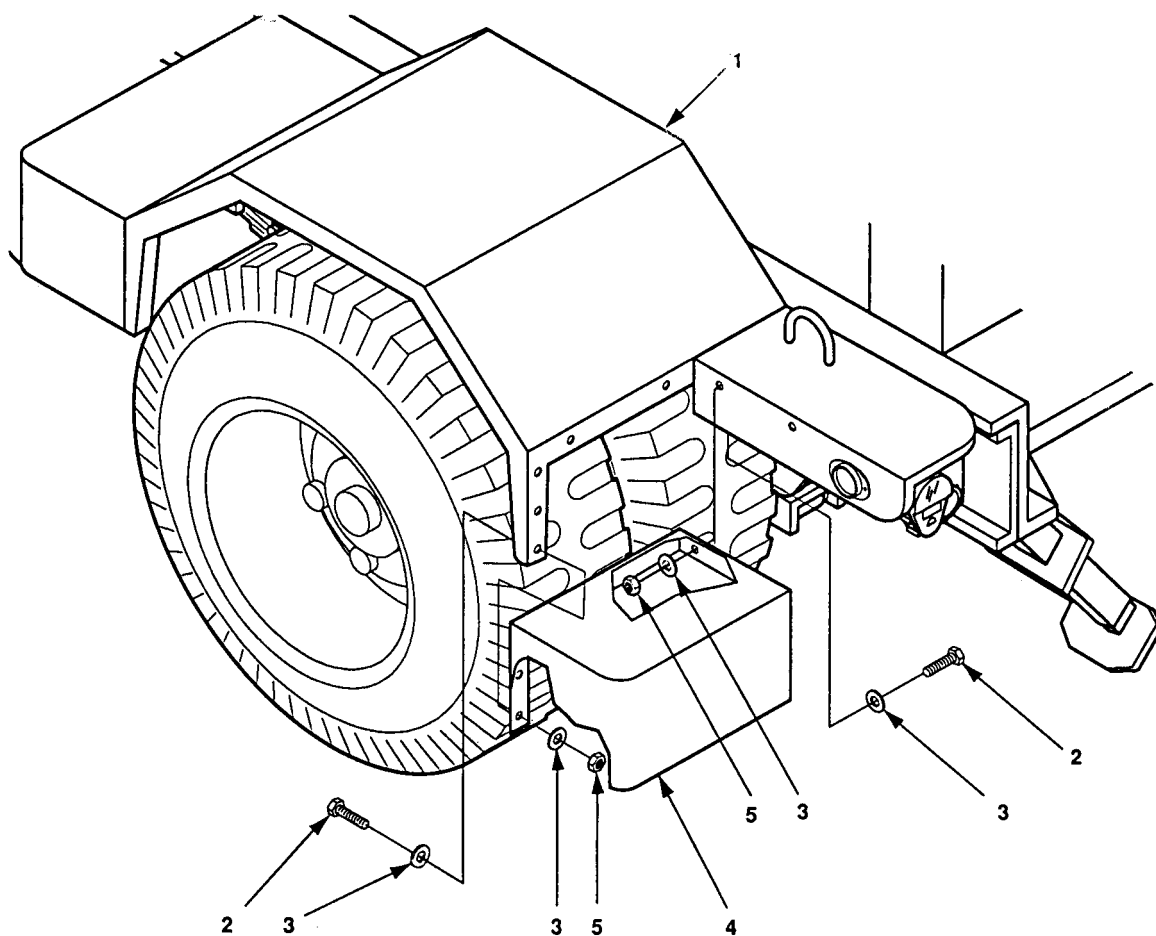

Figure 4-17. Rear Step Replacement.
1. To remove either rear step, remove two self-locking nuts (5, figure 4-17), flat washers (3), and bolts (2) that secure rear step (4) to trailer frame. Discard self-locking nuts.